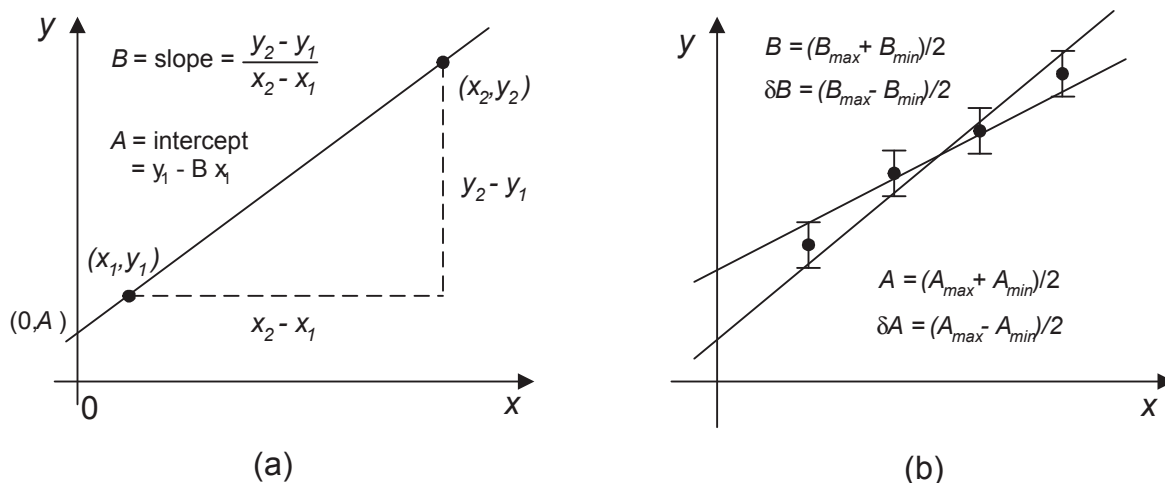

Figure 2.3: (a) Linear fit parameters. (b) Uncertainties in fit parameters
1. Estimate the slope and  $y$ -intercept (each with units) of the line graphed below. (Hint: the  $y$ -intercept is not 2.5; it needs to be calculated using the method shown in Fig 2.3.) Note: these pre-lab calculations should be recorded in your lab notebook before the start of lab.
where  $X$  and  $Y$  are generic names for the horizontal and vertical coordinates, corresponding in this case to  $V$  and  $M$ , respectively. The constants  $A$  and  $B$  are the *parameters* to be determined.  $B$  represents the slope of the line and  $A$  is the  $Y$ -intercept — the point where the line crosses the  $X = 0$  vertical axis. When  $A$  and  $B$  have been determined, you can use the formula to calculate values of  $Y$  for  $X$  values you didn't measure. For a line through two points,  $(X_1, Y_1)$  and  $(X_2, Y_2)$ , the slope is the rise/run, or  $B = \frac{Y_2 - Y_1}{X_2 - X_1}$  and the intercept satisfies the formula  $B = \frac{Y_1 - A}{X_1 - 0}$ , therefore  $A = Y_1 - B \cdot X_1$ . As shown in Figure 2.3, when the points have error bars, a range of lines approximate the data, so the “best” line will have parameters with uncertainties  $\delta A$  and  $\delta B$ .